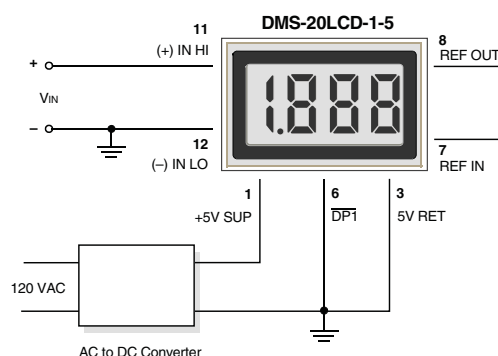

Figure 2. Single-Ended Input Configuration (5V-Powered Models)
- 1. Single-Ended Input Configurations:** True single-ended measurements can only be made with 5V-powered meters. The circuit of Figure 2 avoids problems normally associated with ground-loop currents. Separate ground runs should be used for 5V RETURN (pin 3) and (-) INPUT LO (pin 12).